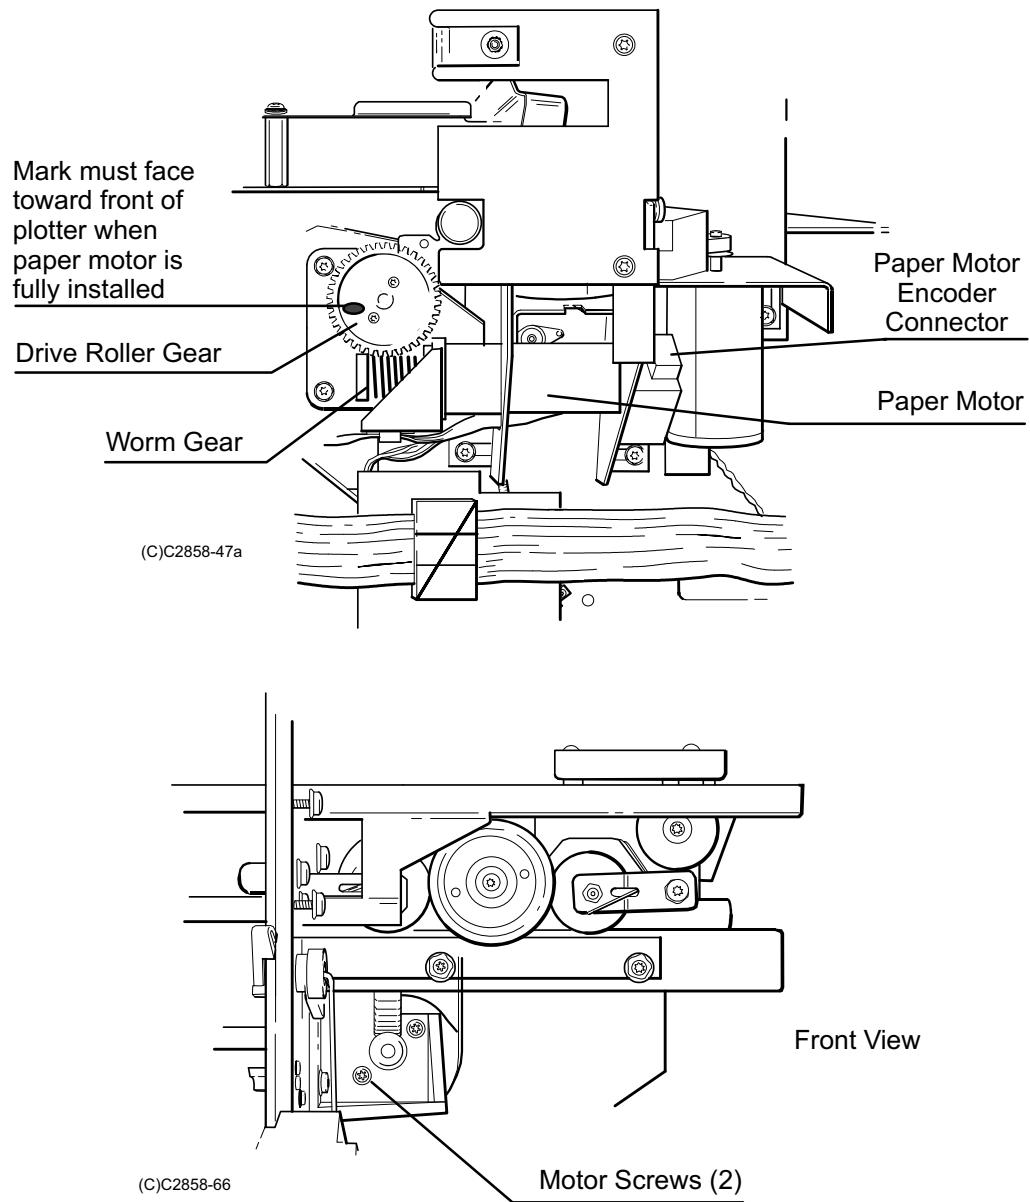

Figure 6-19.
6. Disconnect the encoder cable connector from the paper motor. See Figure 6-19.